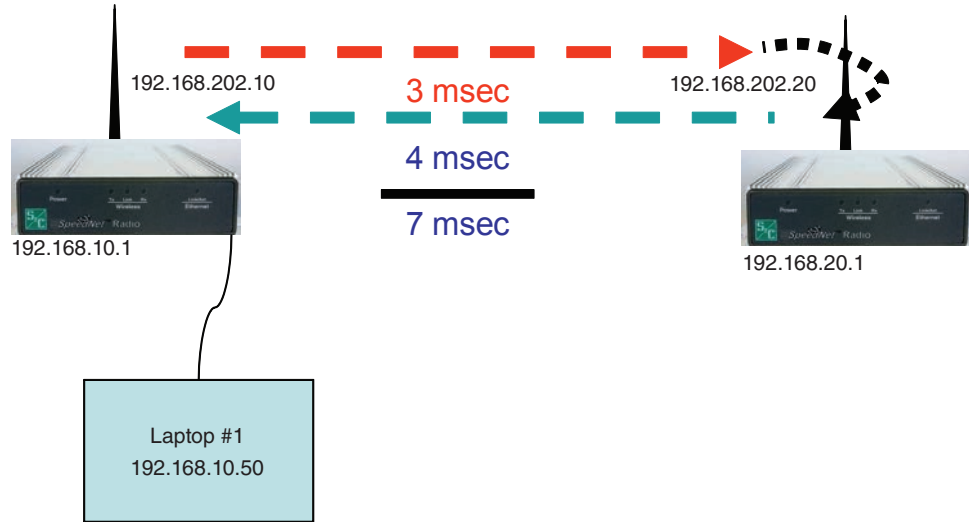

Figure 17. Single link latency test with 32 byte payload.
Step 1. See Figure 17. Open the Windows Command Prompt and verify connectivity to Radio #10 with this command: `C:\Documents and Settings>ping 192.168.20.1 -n 300`.